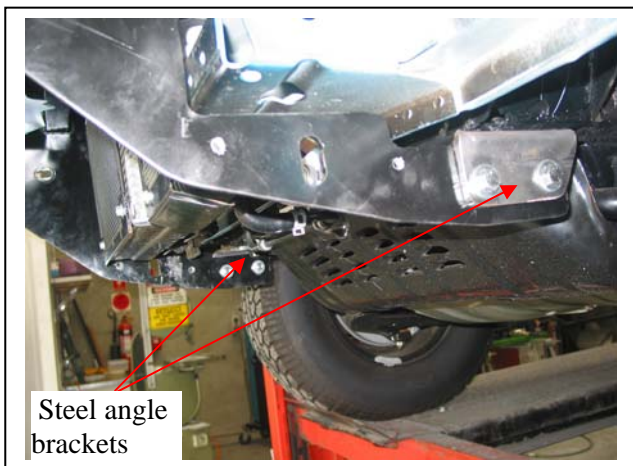

Figure 3
7. Attach ECB steel angle bracket (supplied) to tie down hook captive nuts, angle leg to outside of vehicle. Use two M12 x 1.5 x 35mm bolts, flat and spring washers (supplied) on underside of chassis. **FINGER TIGHTEN ONLY. See figure 3.**